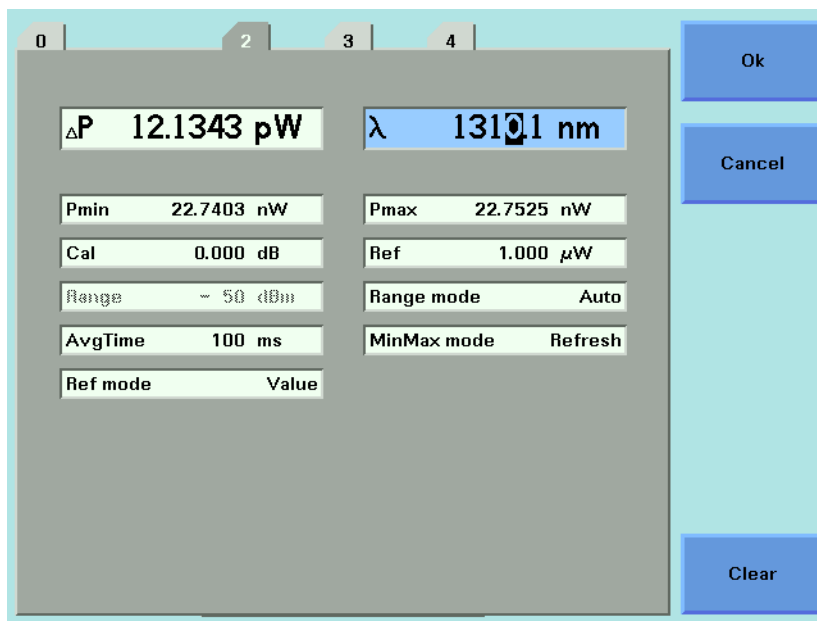

Figure 24 The First Digit Before the Decimal Point is Highlighted First
- 1 Press [Edit]. The first digit before the decimal point will be highlighted first, as shown in Figure 24.